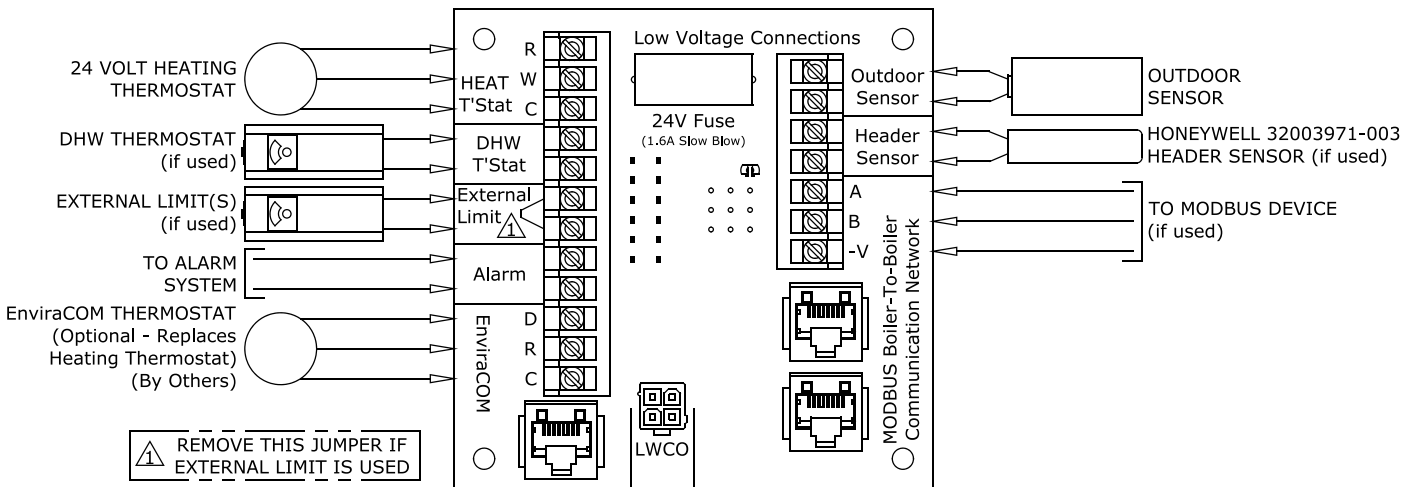

Figure 10.3: Low Voltage PCB Terminal Connections
NOTICE This boiler is equipped with a listed high water temperature limit function. This limit provides boiler shutdown in the event the boiler water temperature exceeds the set point of the limit control. Certain Local Codes require an additional water temperature limit. If necessary, install an additional water temperature limit such as a Honeywell L4006 Aquastat. Wire as indicated in Figure 10.3.
2. Low Voltage Connections – Low voltage field connections on the low voltage PCB are shown in Figure 10.3 and are listed from top to bottom:
- DHW Stat - 24VAC domestic hot water thermostat (1)
- DHW Stat - 24VAC domestic hot water thermostat (2)
- External Limit - Field supplied low voltage safety limit contacts (1)
- External Limit - Field supplied low voltage safety limit contacts (2)
- Alarm Contact (1)
- Alarm Contact (2)
- EnviraCOM Device (D)